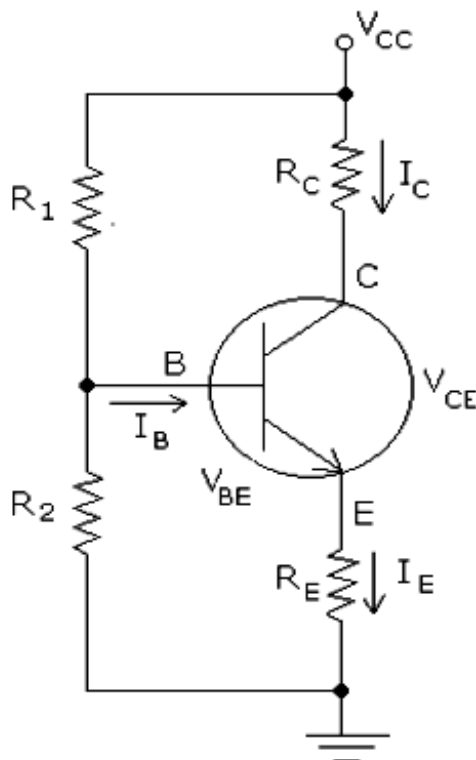

Figure Q1A
- 1) For the biasing circuit shown in figure Q1A with silicon (4)